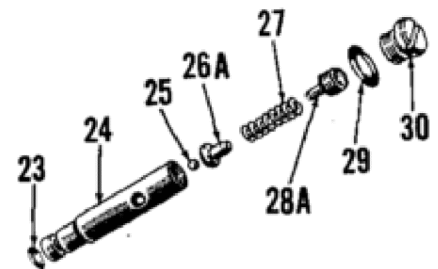

Fig. 430-Exploded view of late production detent regulating valve assembly for valves shown in Figs. 428 and 429.
Fig. 428-Exploded view of single spool remote control valve with spool detent (39) mechanism. Valve spool (7) is not shown removed from valve body; refer to Fig. 429. Refer to Fig. 430 for late production detent regulating valve assembly.
Fig. 429-Exploded view of two spool remote control valve assembly with spool detent (34 and 39) mechanism. Refer to Fig. 430 for view of late production detent regulating valve assembly.